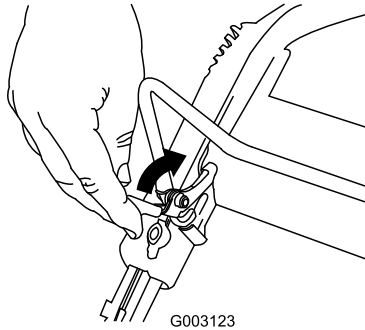

Figure 21
1. Pull the control-bar lock back (Figure 21).